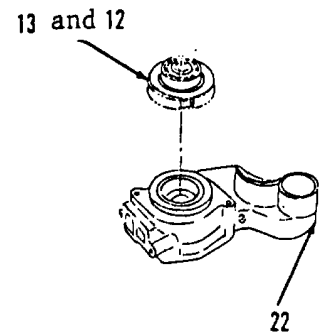

Figure 3-187.
9. Install items 13 and 12 as an assembly in housing (22, Figure 3-187).